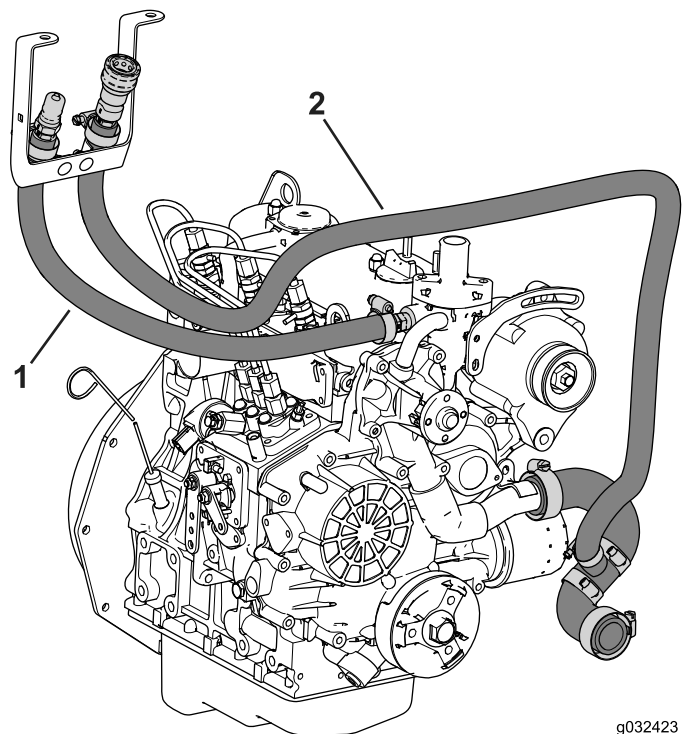

Figure 19
1. Route the supply hose as shown in Figure 19.